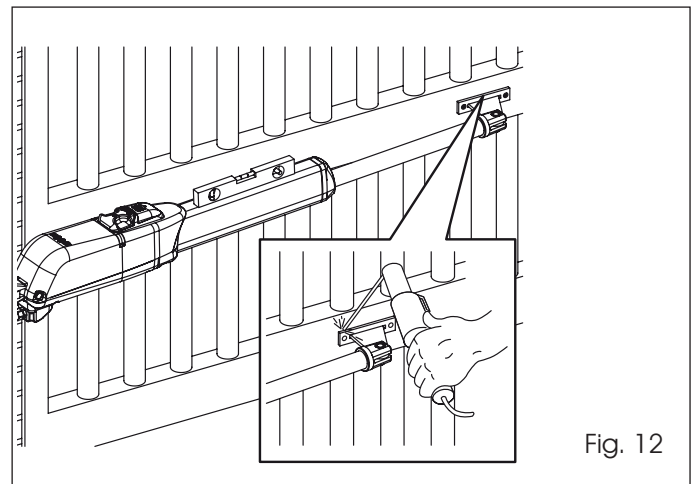

Fig. 12
9. Close the leaf and, while keeping the operator perfectly horizontal, determine the fastening point of the front bracket (Fig.12).
10. Temporarily attach the front bracket with two tack welds (Fig.12). Protect the piston during the welding.